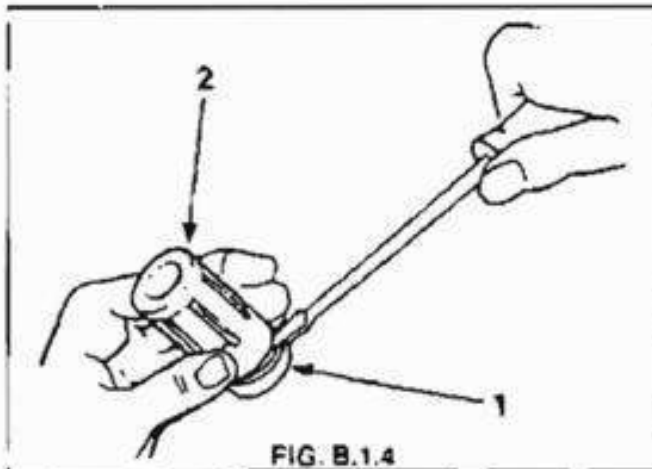

FIG. B.1.4
3. Use a small screwdriver or similar implement prise the spring out of the flash hider recess. See Fig. B.1.4.